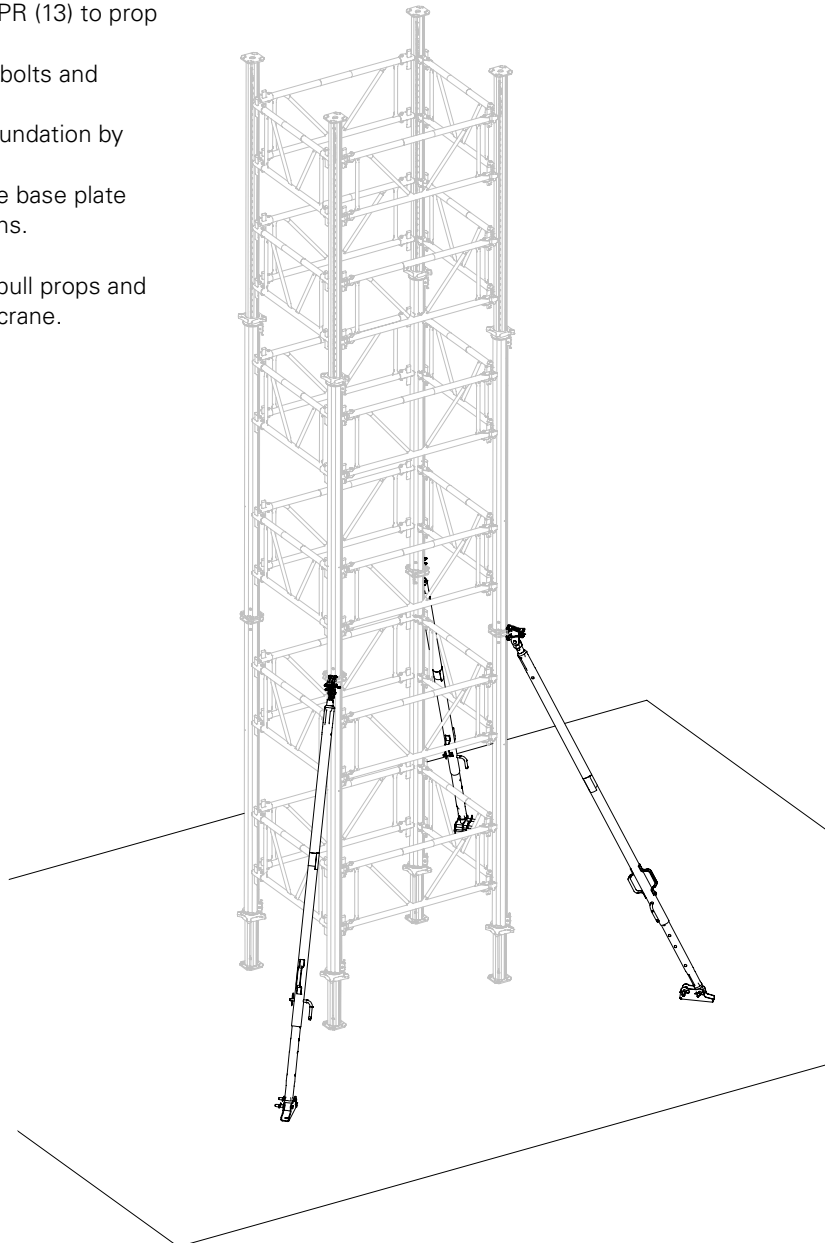

Fig. A5.02
5. Mount additional push-pull props and detach tower from the crane. (Fig. A5.02)